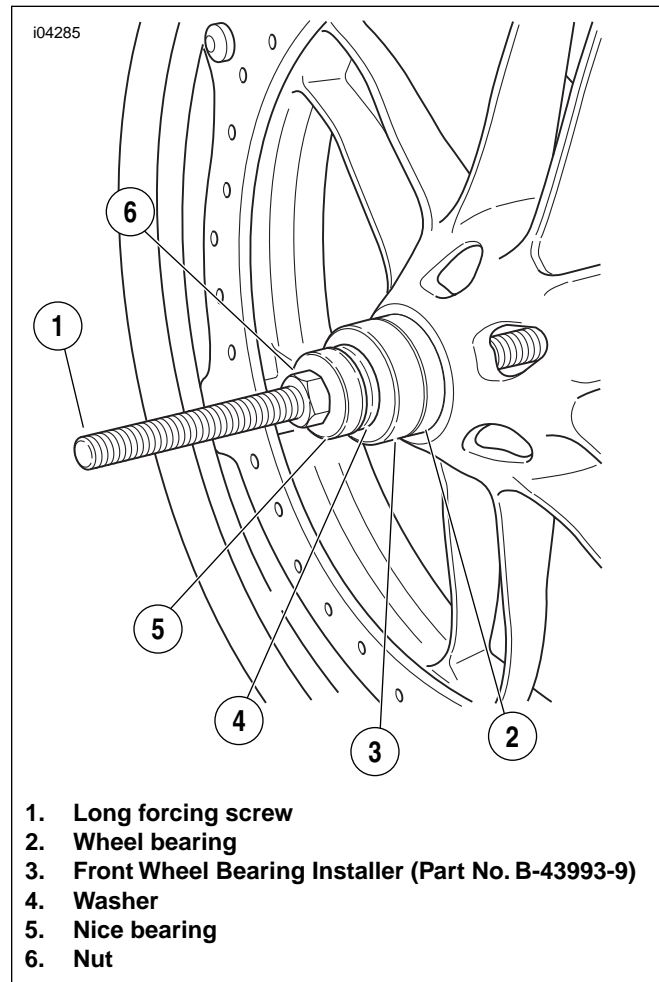

Figure 2-14. Installing Wheel Bearings
2. See Figure 2-14. Sparingly apply EXTREME PRESSURE LUBRICANT (Part No. J-23444-A) to the threads of the long forcing screw (1) to prolong service life and ensure smooth operation.
3. Insert a **new** wheel bearing (2) squarely into the hub, with the lettered side pointing out (away from the wheel).
4. Slide the FRONT BEARING INSTALLER (Part No. B-43993-9, from kit Part No. B-43993-50) (3) onto the forcing screw (1), with the smaller diameter toward the bearing bore.
5. Install a washer (4), Nice bearing (5) and nut (6) onto the forcing screw (1).
6. While holding the forcing screw (1), tighten the nut (6) until the bearing is seated firmly against the shoulder inside the bearing bore in the wheel hub.